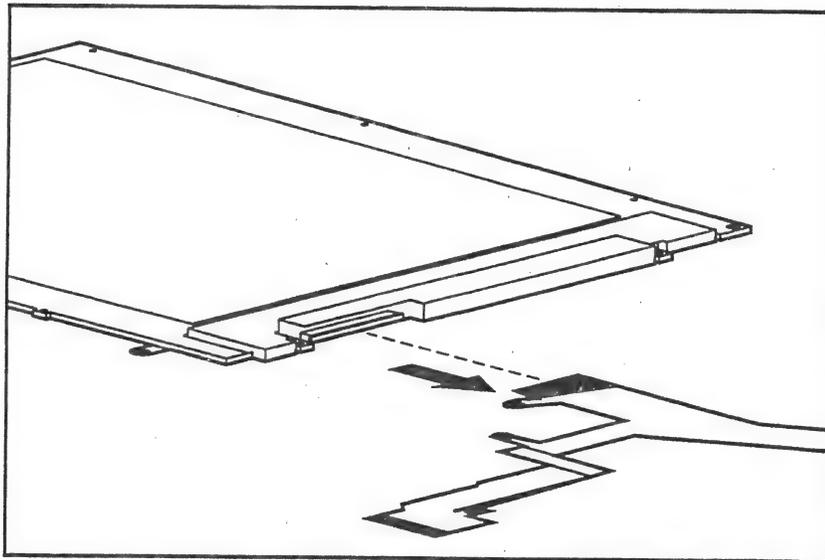

Figure 2-37. Disconnecting the LCD Display Cable
5. Using the case utility tool, pull out on the ZIF connector to release it; then disconnect the display cable (Figure 2-37).